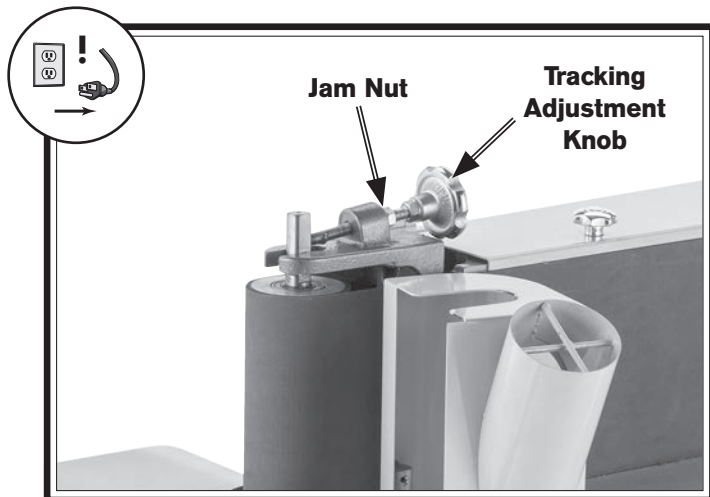

Figure 33. Belt tracking components.
3. Loosen jam nut shown in **Figure 33**.
4. Adjust tracking with tracking adjustment knob and continue to rotate belt by hand until sanding belt is centered on drive wheel (see **Figures 33–34**).